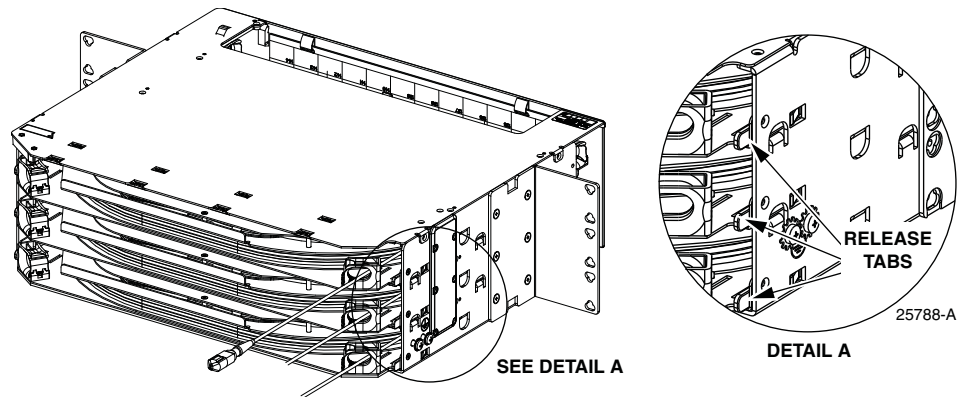

Figure 47. Pressing Release Tabs
7. Press the black release tabs on both sides of the panel shell, as shown in Figure 47, and then continue sliding the cable spool tray into the mounting slot until it locks into place.